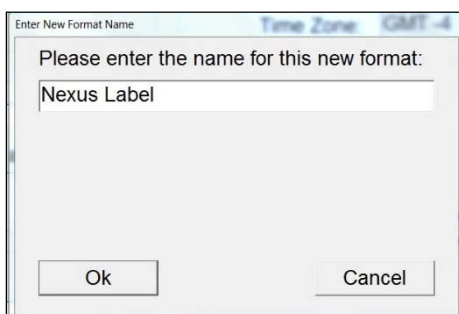

Figure 8: Enter the name of the new format
4. If you selected “Create a New Format,” enter the name of the new format in the text field and then click “Ok” (Figure 8). If you choose to “Select an existing format,” skip step 4 and proceed to step 5.